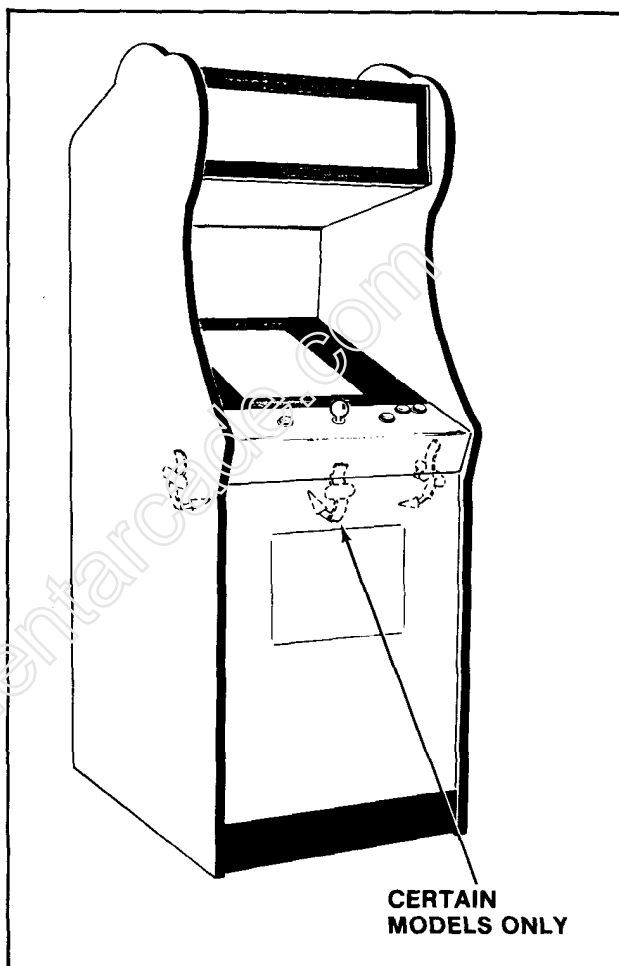

Figure 2-2 Opening the Control Panel - Upright
### 2.4.1 UPRIGHT MODEL: (See Figure 2-2)
- ❑ The control panel is held in place by two or three latches. See Figure 2-2.